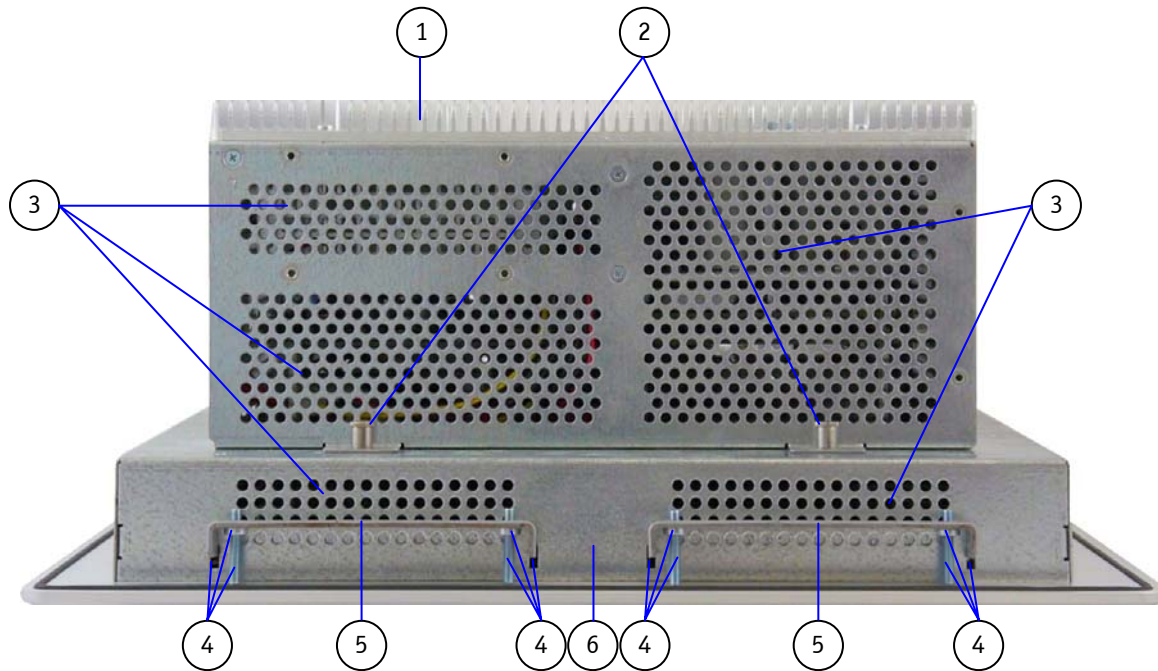

Fig. 15: Top side of V Panel Express
The V Panel Express 121/150/170/190 system will be secured into an instrument panel or a cabinet with two mounting clamps on the top side [refer to (Fig. 15, pos. 5)].